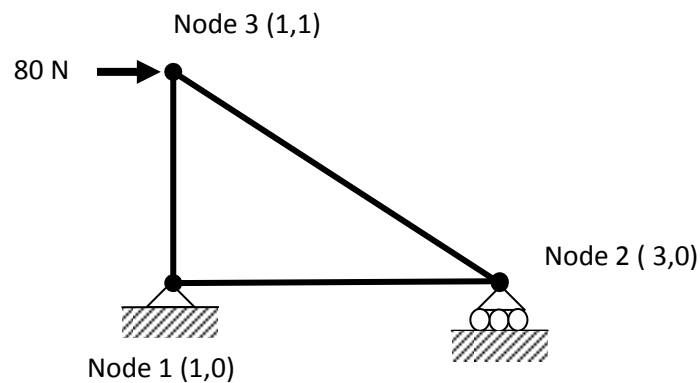

Figure 11
- (b) Show clearly in a step by step manner the development process of a stiffness matrix, $[K]^e$, for a triangular element in a state of plane stress as shown in Figure 11. Then calculate the displacements at node 3 and horizontal displacement at node 2. Given $E = 200 \text{ GN/m}^2$, $\nu = 0.3$ and $t = 1 \text{ cm}$.